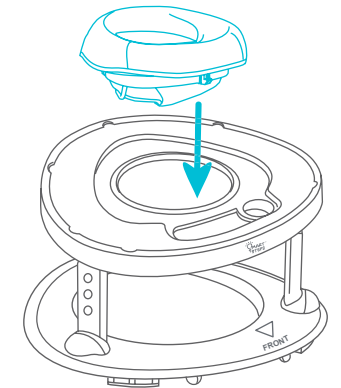

Fig. 2b
- Align the seat to the center opening and press it down firmly. The seat must completely click into to the tabletop (Fig. 2b).